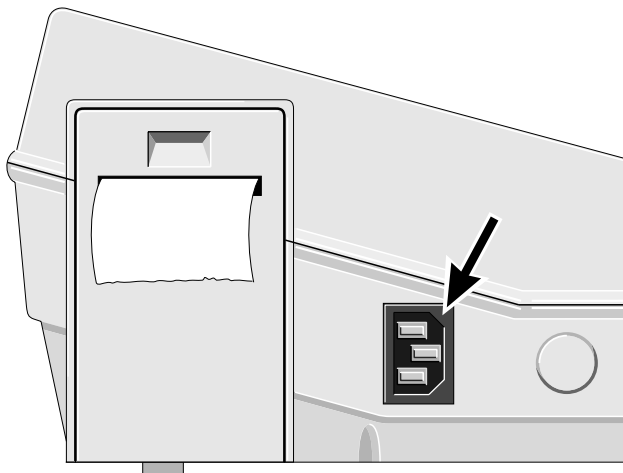

Figure 3-1. Power input
- * Use the power cord to connect the defibrillator to the power line (Figure 3-1).